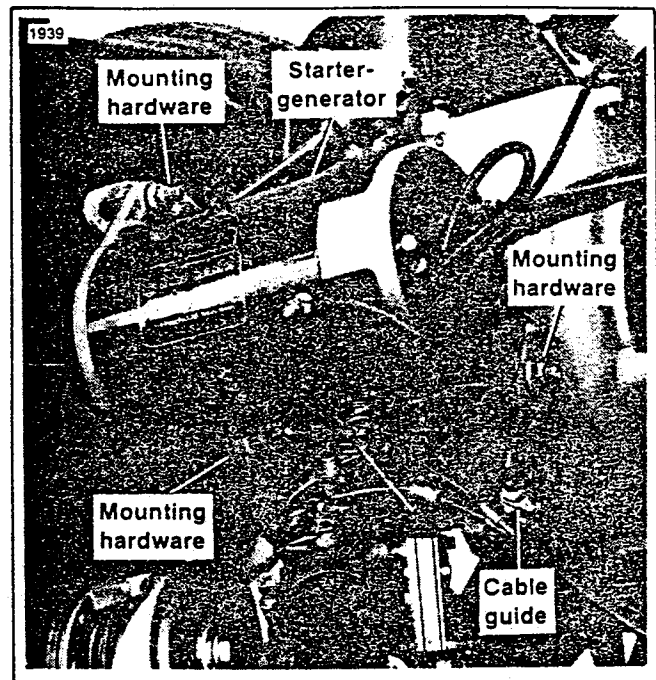

Figure 5-1. Starter-Generator Mounting
2. See Figure 5-1. Disconnect the wire, leading from the starter motor to the solenoid, at the solenoid. Remove the cable guide and starter-generator from the engine and place them on the car front floorboard.